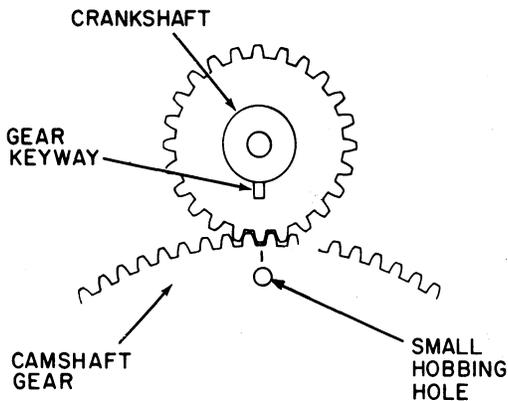

Figure 19
2. It is a good idea to align the timing marks of the crankshaft and camshaft gears for disassembly, and essential to do so for reassembly. Refer to Figure 19. The timing mark on the camshaft is in line with the center of the hole used in hobbing (cutting) the gear. If no timing mark is found, use the center of the hobbing hole.